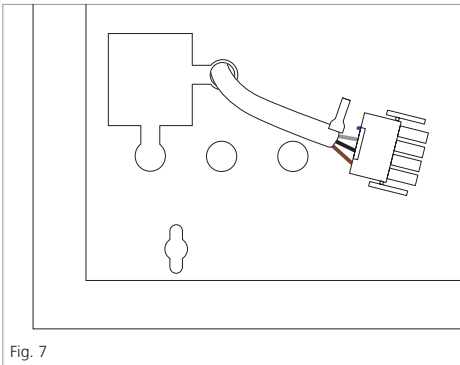

Fig. 7
2. Connect the harness to the spare plug in the heater and feed out the harness through the square aperture in the rear of the heater (see Fig. 7). Ensure the cable is then fed through one of the round slotted holes at the bottom of the aperture and secure the black plastic bush already fitted to the cable in the slotted hole.